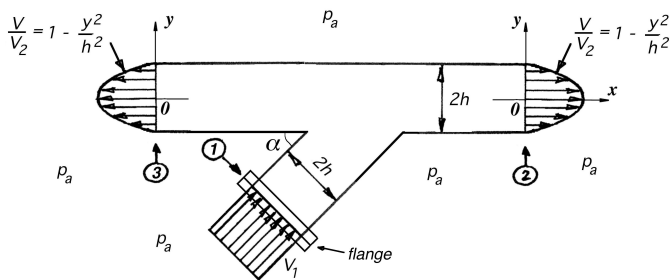

Figure P3.45
3.45 A steady flow of air of constant density ρ issues from two exit areas in a two-dimensional duct of width w and height $2h$, as shown in Figure P3.45, and for each exit plane the velocity distribution is parabolic with a maximum value of V_2 . The inflow to the